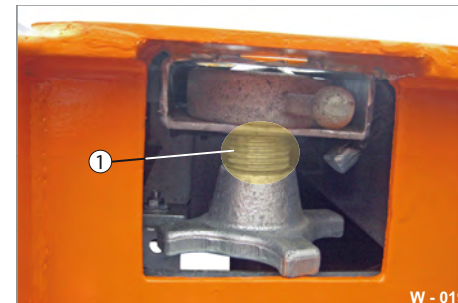

Fig. 23 Lubricating thread
- Lubricate the thread (Fig. 23/1) with machine grease.